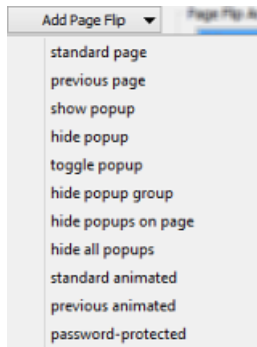

FIG. 380 Add Page Flip drop-down menu
Click the **Add Page Flip** command button to access the *Page Flip Types* drop-down list, which allows you to select from a list of page flip types (see FIG. 380 on page 270):
4. Click **Add Page Flip** and select a page flip type from the *Add Page Flip* drop-down menu (FIG. 380):